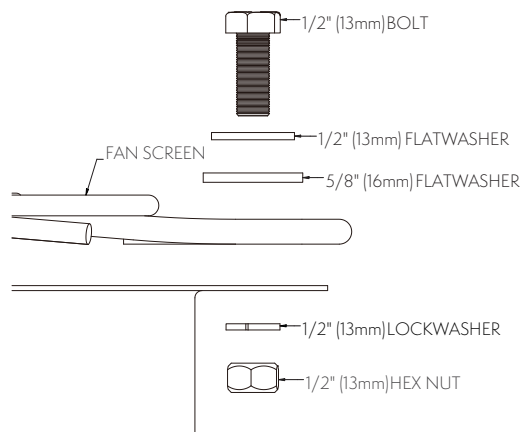

Figure 26 – Fan Screen Attachment Hardware
4. Align the (12) eyelets on each fan screen assembly with the pre-drilled 1/2" (13mm) holes in each fan cylinder. Secure the fan screen to the cylinder with 1/2" (13mm) hardware as shown in Figure 26.